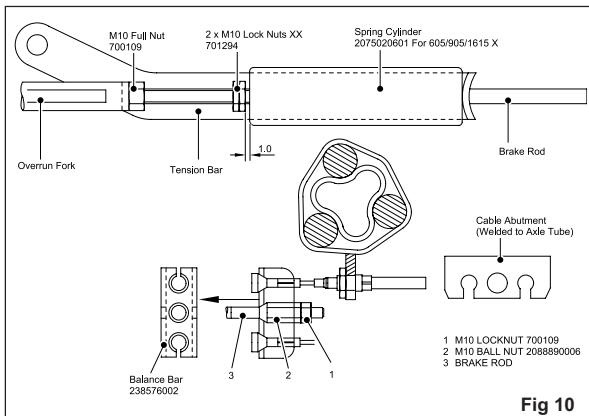

Fig 10
- Ensure the balance bar (compensation) is being pulled evenly. This bar (double on tandem axles) should always be paralleled with the axle tube when pulled (Figs. 8 & 10). Adjust M8 lock and ball nuts, if necessary, to achieve correct parallel position (Fig. 10).
- Over adjustment to the long ball nut (Fig 10), could induce movement of the inner brake cable, reducing the effective clearance of the brake shoes. If the overrun lever will not make contact, it is possible the two lock nuts, forward of the spring cylinder, are incorrectly adjusted. Loosen the nuts and adjust the brake rod as above (Figs 8 & 10).
- Adjust the two locking nuts, forward of the spring cylinder (Fig. 10), (on some chassis a single Nyloc nut is used) to
(See Fig. 10). If the overrun assembly is fitted with a gas strut handbrake then no spring cylinder is fitted - therefore ignore this paragraph).